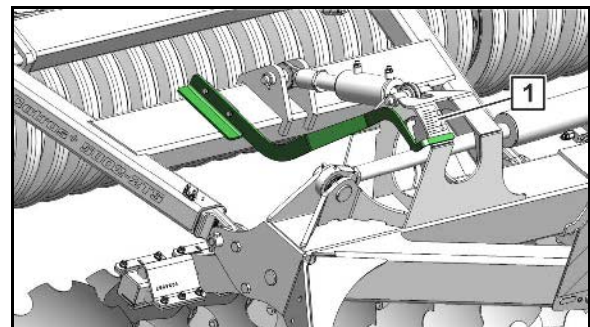

Fig. 44
- The working depth is set hydraulically using the scale (Fig. 44/1).